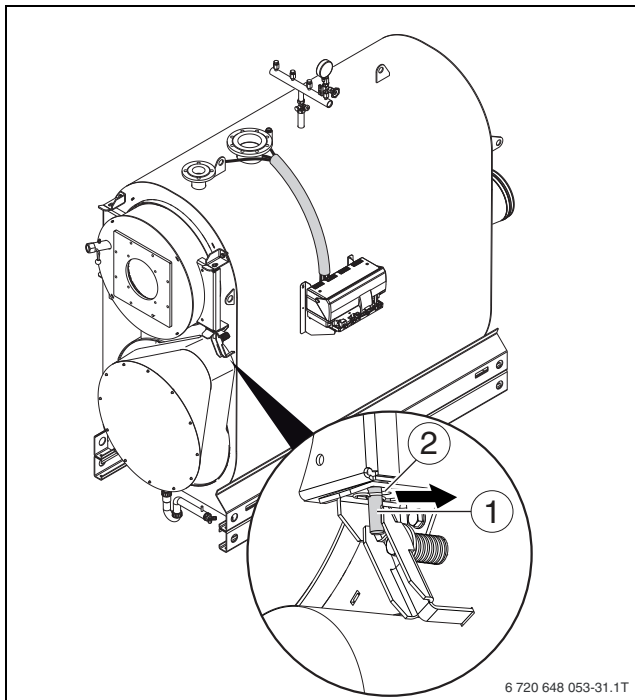

Fig. 17 Removing the retaining split pin
- ▶ Tighten the compression spring with the Allen screw until the rocker arm to the hinge pin has some play (→ fig. 17, page 22).
- ▶ Pull the hinge pin (→ fig. 17, [1]) upwards out of the hinge.
- ▶ Fit the retaining split pin through the hinge pin below the lower door stay (→ fig. 17).